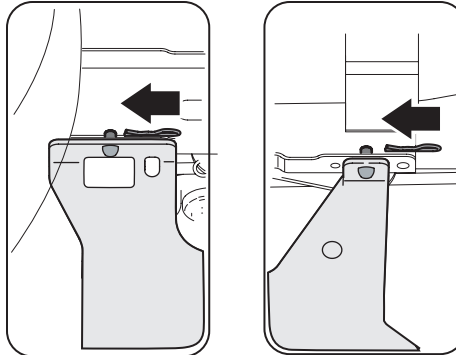

Figure 4-8
3. Fasten the undercarriage assembly to the frame with the hairpin clips removed in step 1. See Fig. 4-8